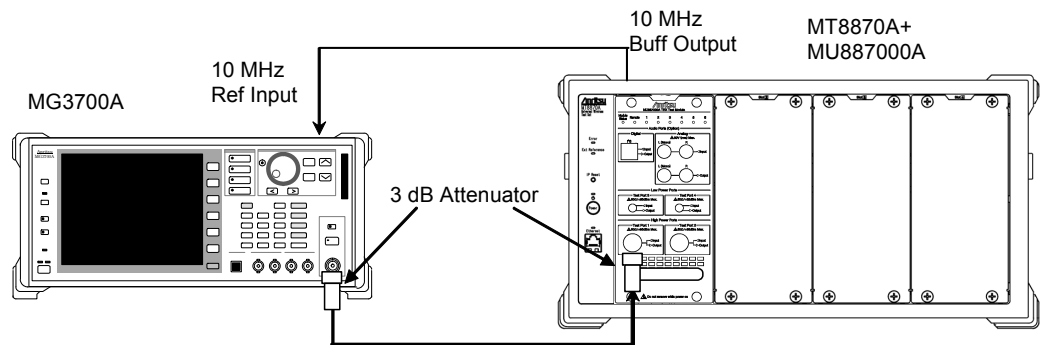

Figure 6.4.4-1 Setup for Measuring Adjacent Channel Leakage Power Ratio
1. Setup the instruments as shown in Figure 6.4.4-1.